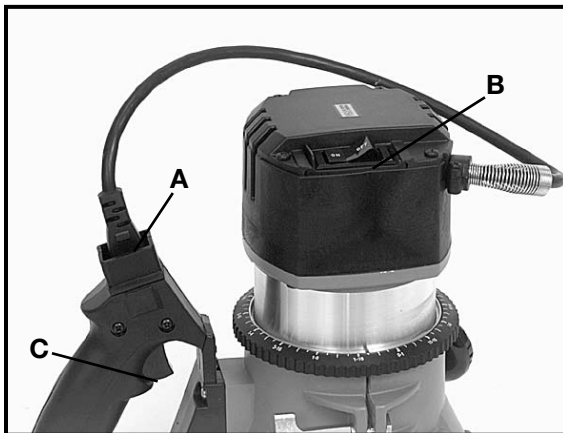

Fig. 7
When using the base with the switch-in-handle as shown in Fig. 7, be sure the motor unit power cord (A) is plugged into the handle as in Fig. 7, and the switch (B) on the motor is set to the ON position. The starting and stopping of the motor is then controlled by depressing and releasing the trigger switch (C) in the handle of base.
On applications when it is desirable to keep the motor running without continually holding in the trigger switch (C) Fig. 7, simply depress the trigger (C) into the handle and press in the switch locking the button on the side of the handle. While holding the button in, slowly release the trigger. To stop the motor, squeeze trigger into handle and release to disengage locking button.